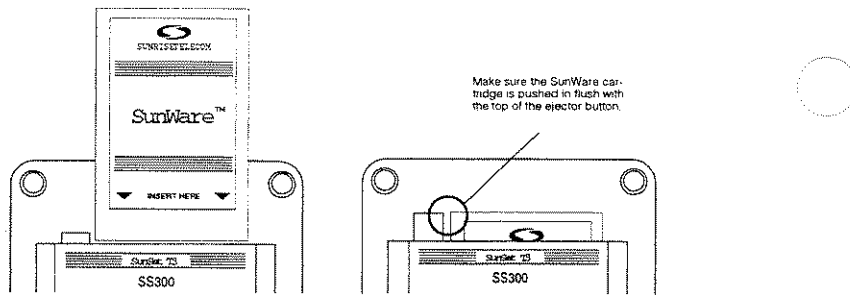

Figure 1.A
- 6) Ensure the SunWare cartridge is fully seated in its slot. Refer to Figure 1.A.
- 8) If you choose to install the Instrument Stand, refer to Figure 1.B.